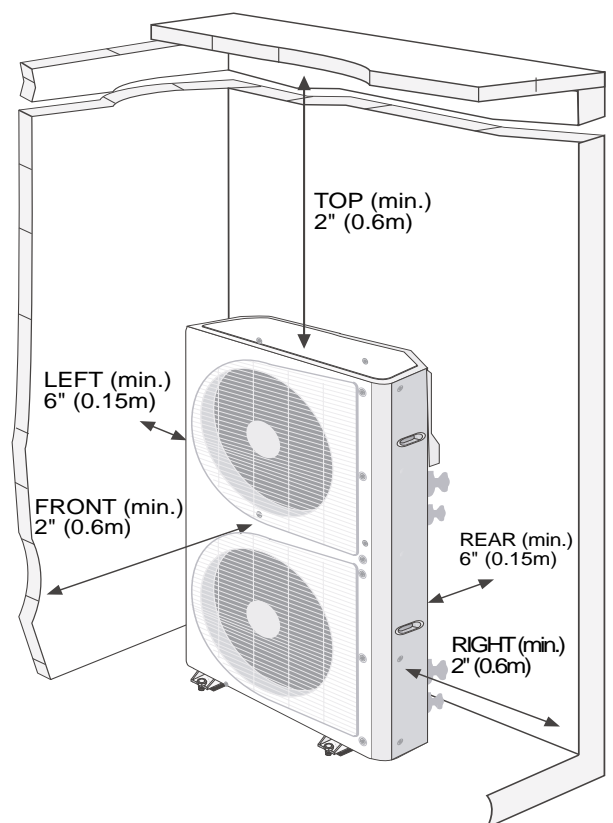

Fig. 1 — 38BCC/BCQ 018, 024 Outdoor Unit Clearances
- Use only type "G" or "C" fuses. Use single length power cable without extension. Allow sufficient space for airflow clearance on condensing units for wiring, refrigerant piping, and servicing unit. See Fig. 1 and 2 for minimum required distances between unit and walls or ceilings.